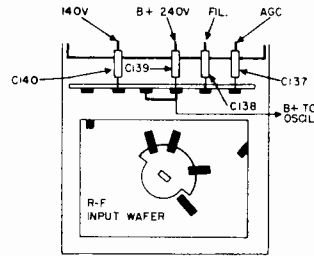

Fig. 19. R-F Tuner Terminal Board
The proper operation of the AGC Keyser tube V108B may be checked by shorting pins 2 and 7 and observing the AGC voltage. This voltage should reach a value of 40 volts as measured at the AGC terminal of the R-F Tuner (see Fig. 19).
1. Connect 3 volts bias from the AGC line on the r-f tuner (see Fig. 19) to chassis with the positive terminal of the battery connected to chassis.